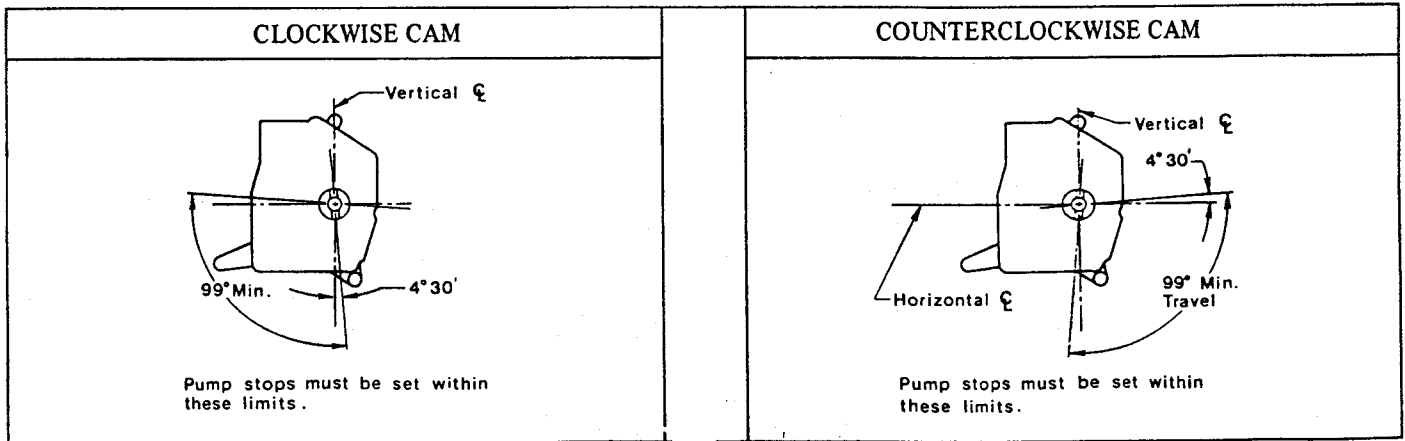

Figure 7. External Pump Handle Stops.
**E. EXTERNAL PUMP HANDLE STOP INSTALLATION – SERIES 7269 ELECTRIC RESET.** Figure 7.
Note: There are both clockwise and counterclockwise resets. Be sure to use the appropriate limit information in Figure 7.